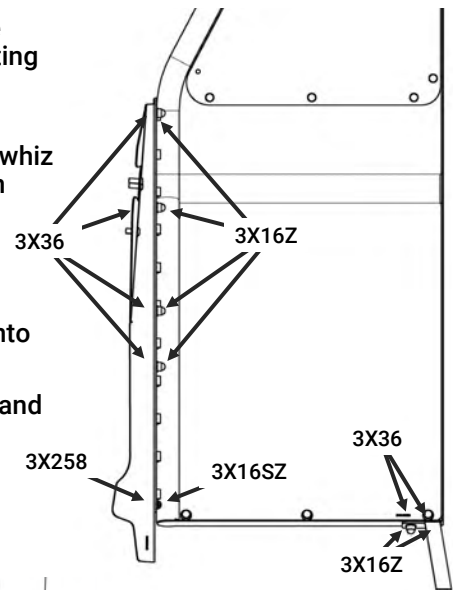

Figure 15
1. Prepare (4) [3X36] 1/4-20X5/8" carriage bolts, (1) [3X258] 1/4-20X1/2" button head screw, (4) [3X16Z] 1/4-20 whiz nuts, and (1) [3X16SZ] 1/4-20 small whiz nut near the mounting plate. Prepare (2) [3X36] carriage bolts, and (2) [3X16Z] whiz nuts near the Inboard Support Bracket.
3. Use the first set of fasteners prepared in step 1. to loosely secure the Partition to the Mounting Plate. The button head screw and the small whiz nut go in the bottom hole. Use the second set of fasteners prepared in step 1. to loosely attach the Partition to the Inboard Support Bracket. Figure 15 shows the partition installed at this stage.